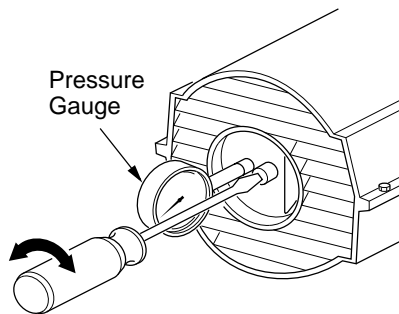

Figure 14 - Adjusting Pump Pressure (40/55T/70T Models Shown)
4. Adjust pressure. Turn relief valve to right to increase pressure. Turn relief valve to left to decrease pressure. See specifications correct pressure for each model (see Figure 14).